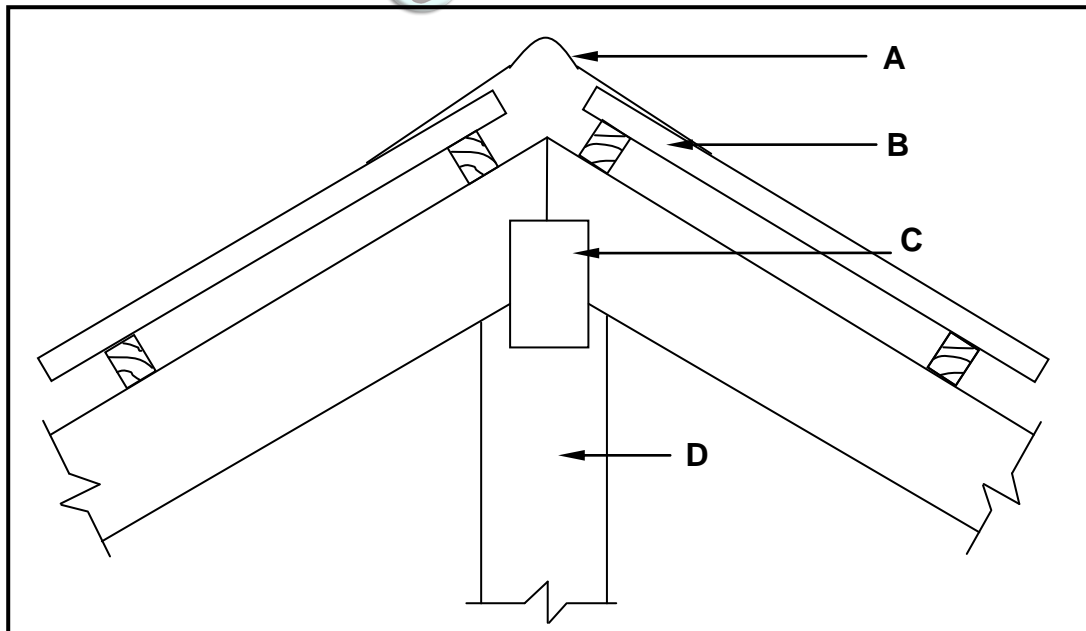

FIGURE 3.6
- 3.6 FIGURE 3.6 below shows a vertical cross section of a part of the construction at the ridge of a roof truss. Identify parts **A-D**.